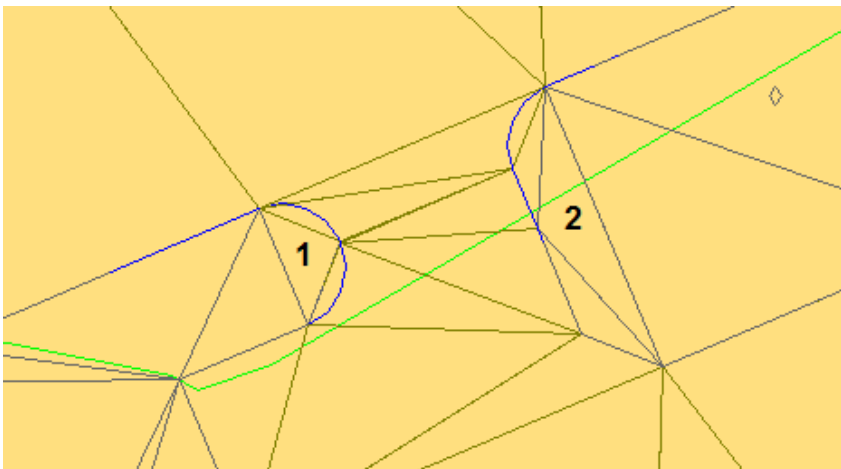

Figure 25: Triangulation issues
- The arc portion of our ramp (area 1 in figure 25) is not triangulated very well.